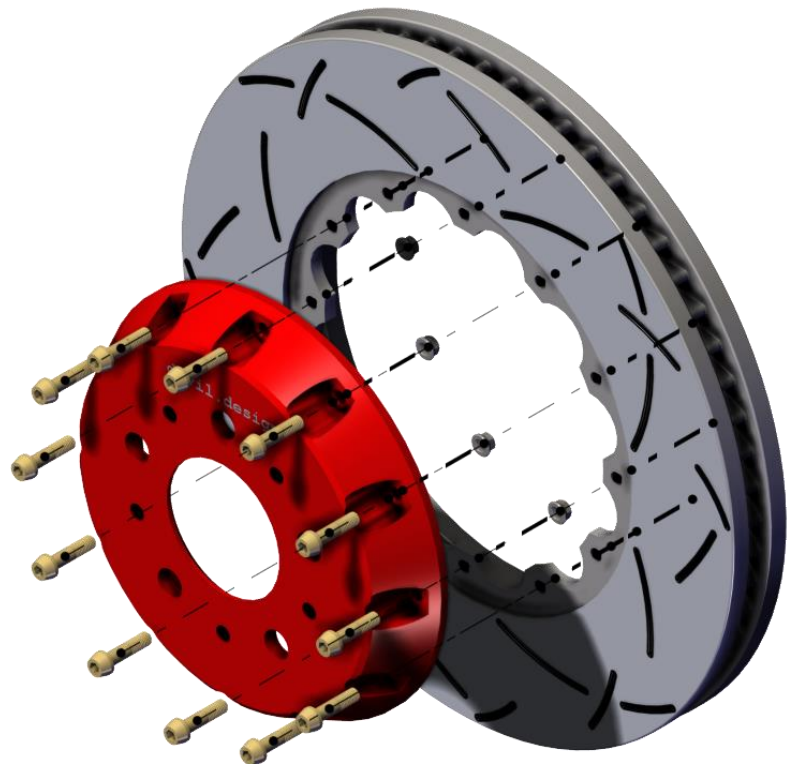

Figure 2 Assembly Arrangement - Front View
2. Assemble the MS20004-8 bolts through the hat so that the bolt head is on the hat side as per Figure 2 Assembly Arrangement - Front View.